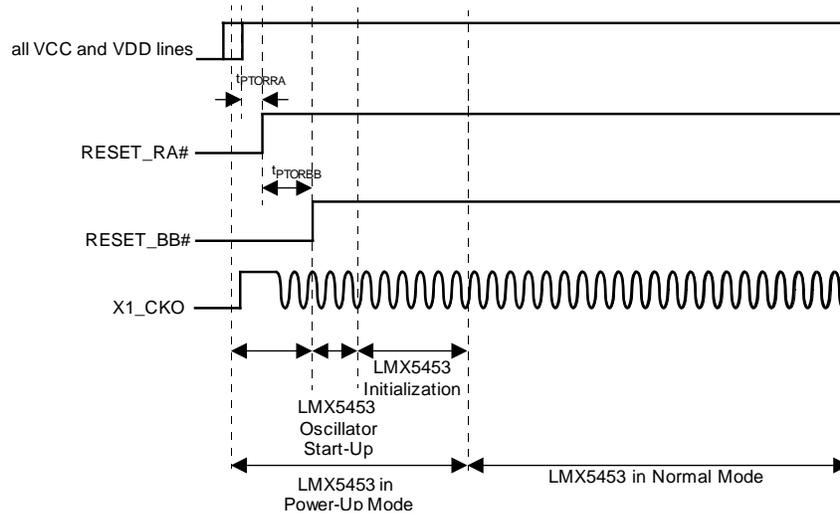

Figure 10. LMX5453 Power-On Reset Timing
3. Then RESET\_BB# should be driven high at a recommended time of 1ms after the LMX5453 voltage rails are high. The LMX5453 is properly reset. (See Figure 10).